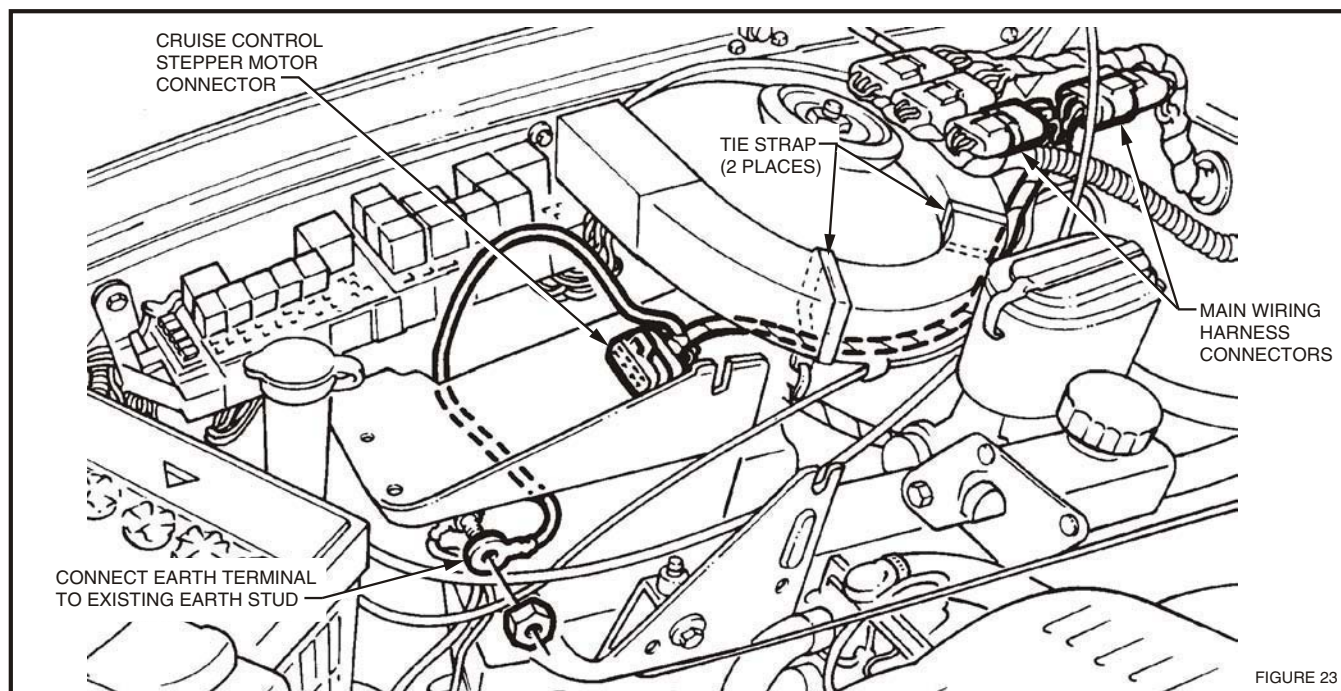

FIGURE 23
51. Bridge 2 patch harness connectors between the most inboard of the 3 engine and main wiring harness connector pairs on former end cap, refer fig. 23.
54. Route foam covered section of harness behind former and route stepper motor connector lead beneath former to stepper motor mounting location, refer fig. 23.
55. Route earth lead between stepper motor bracket and inner fender, to existing body earth stud. Attach cruise control earth terminal to body earth stud, refer fig. 23.